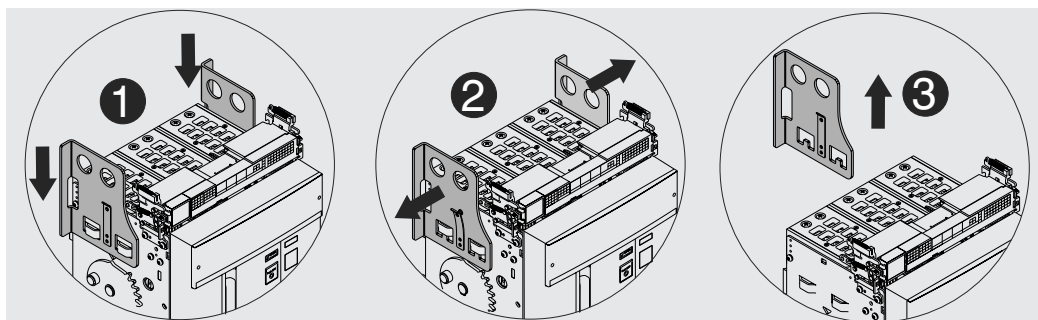

Figure 41
5. Unlatch the tongue and remove the lifting plates from the moving part. See Figure 41.